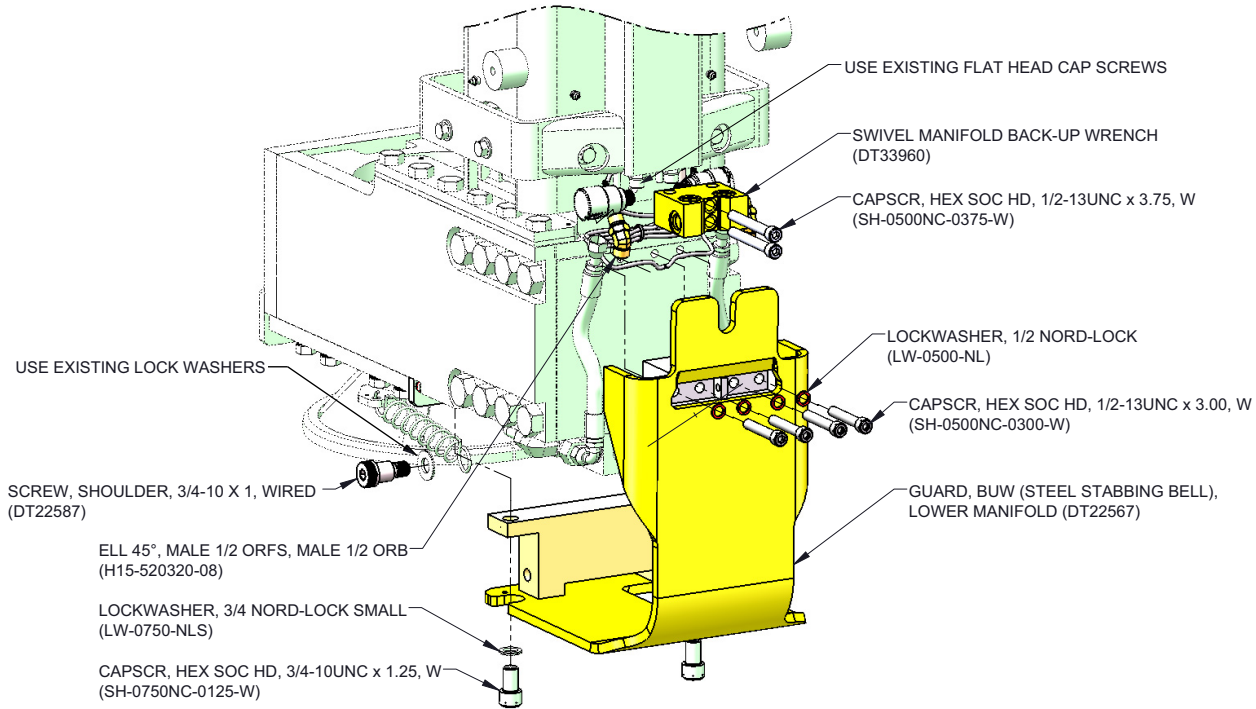

Figure 7: Steel stabbing bell, assembly overview for new guard
2. Using the BOM components listed in Table 2 on page 7, reassemble the manifold guard and swivel manifold. See Figure 7.